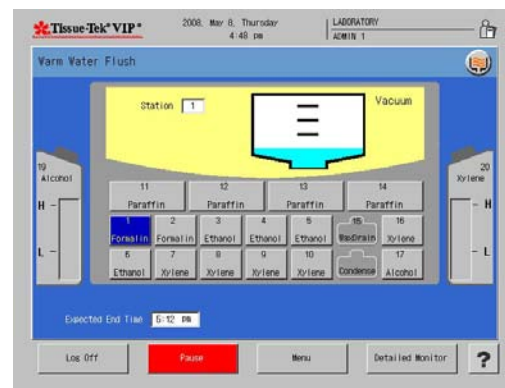

Figure 4-T
- The Warm Water Flush Overview Monitor Screen displays (Figure 4-T).